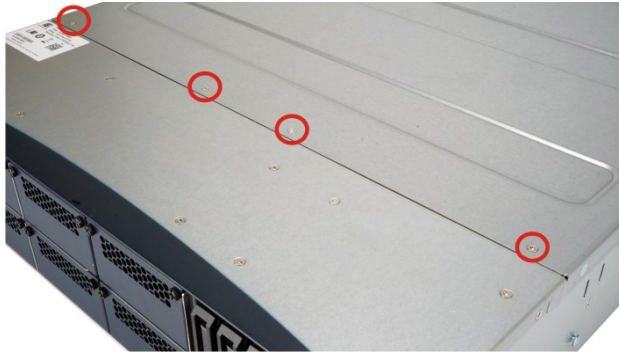

Figure 3-1: Top Cover Retention Screws
Step 1: Remove the four retention screws on the top panel (see **Figure 3-1**).